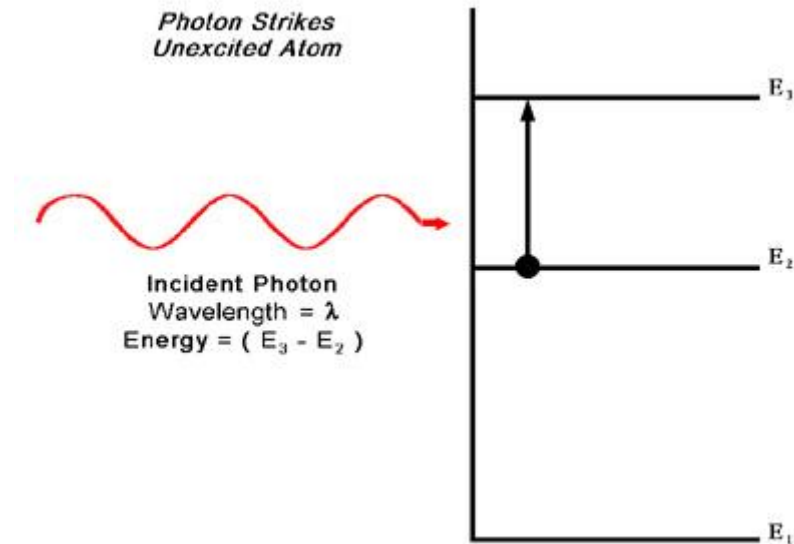

Fig. 11
(28) Figure 11 illustrates another process that occurs within a laser. Here, a